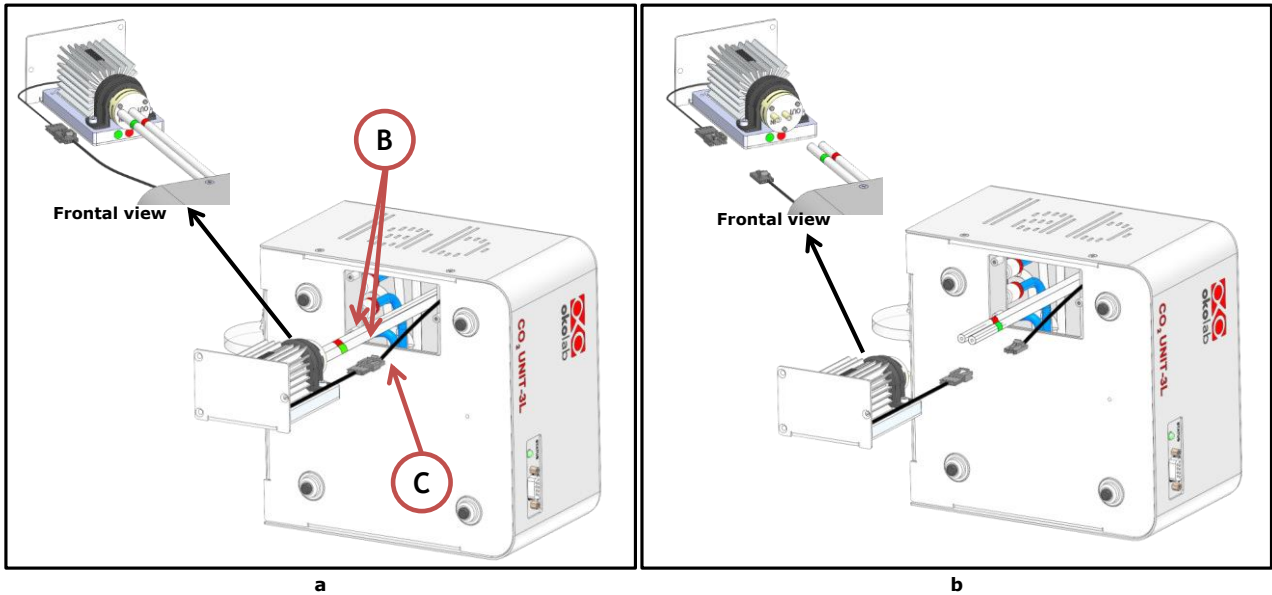

Figure 56. Pump tubing and connector disconnection.
- 2 Remove the pump from its housing paying attention not to damage the other components of the unit, see Figure 56, a.
- 3 Disconnect from the pump the tubing marked with green and red tape (B in Figure 56, a) and the connector indicated with C in Figure 56, a. Figure 56, b shows the tubing labeled with green and red tape and the connector, once disconnected.
- 4 Connect the new pump to the tubings, paying attention to match the colors (B in Figure 56, a) and to the connector (C in Figure 56, a).